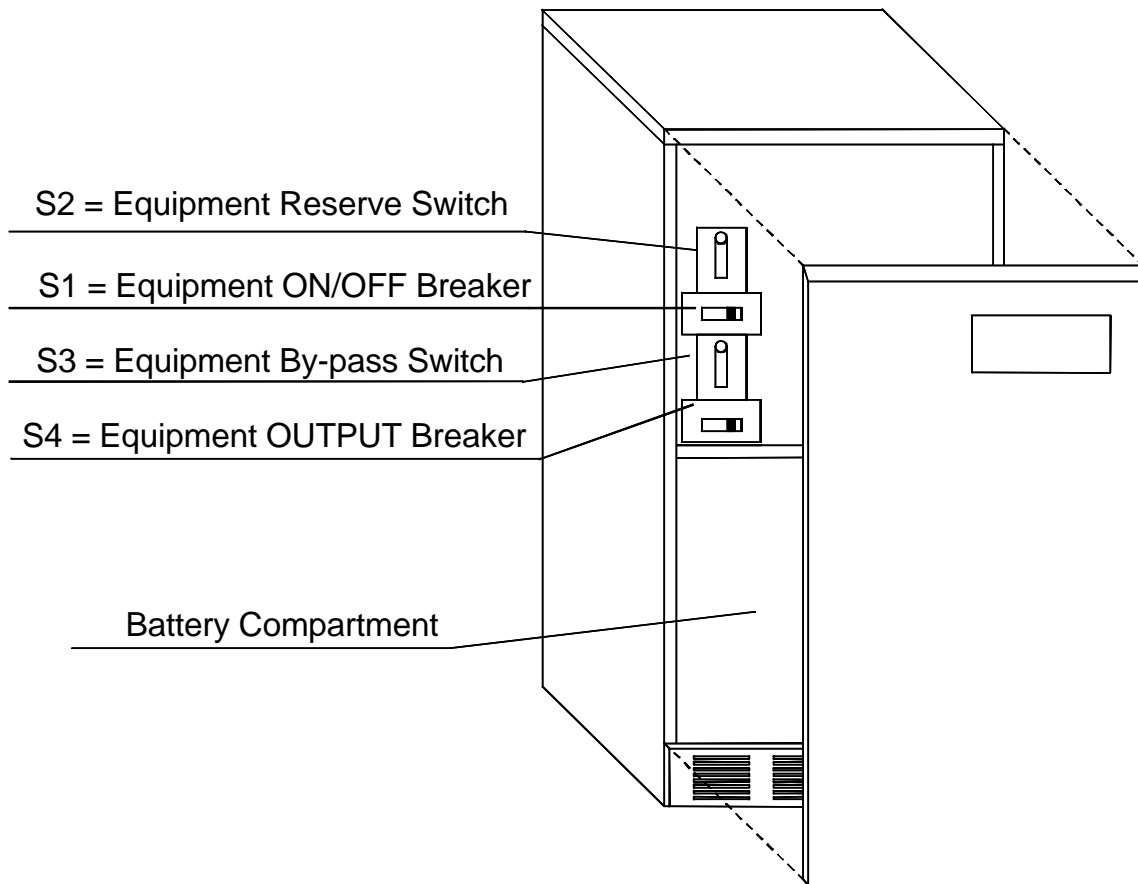

Figure 16 - 24 – 12/18/24kVA: Switches and Breakers
Ensure the AC supplies and load are switched OFF. Check that **all the EDP70 PLUS UPS Switches** (behind the front panel) are switched OFF, see Figure 16 .
- a) Remove front panel see Figure 16.
Ensure the AC supplies and load are switched OFF. Check that **all the EDP70 PLUS UPS Switches** (behind the front panel) are switched OFF, see figure 16.